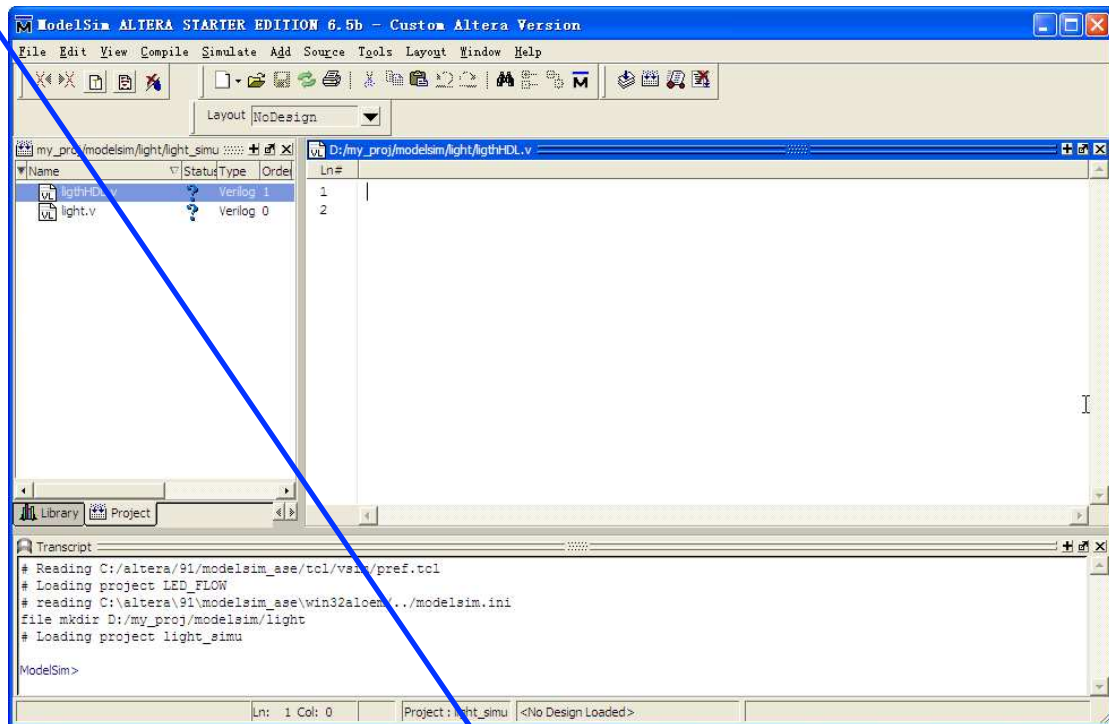

Figure 35.Edit new Files
7. Then, the Project option will appear in the Workspace window, which includes lightHDL.v. There is also a question mark in Status bar which indicates the document has not been compiled. Double click this file to get the edit window (Figure 35 in which we input our design files as follows: